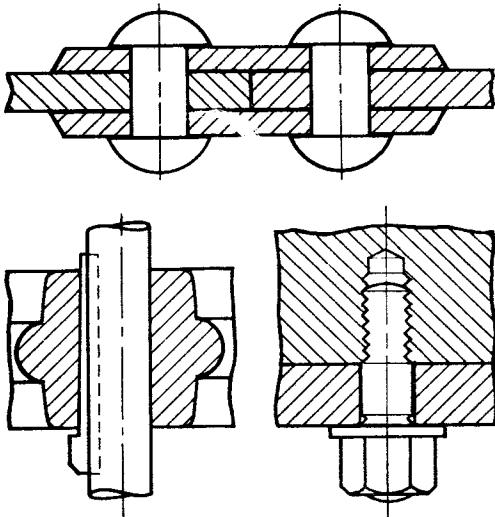

Fig. 12. Parts normally not sectioned
14. Parts normally not sectioned. If the cutting plane of a section drawing passes through simple parts whose shape is well known, these parts are shown in outline only. Examples are bolts, nuts, rivets, rods, keys, pins, shafts and other similar simple parts (Fig. 12).